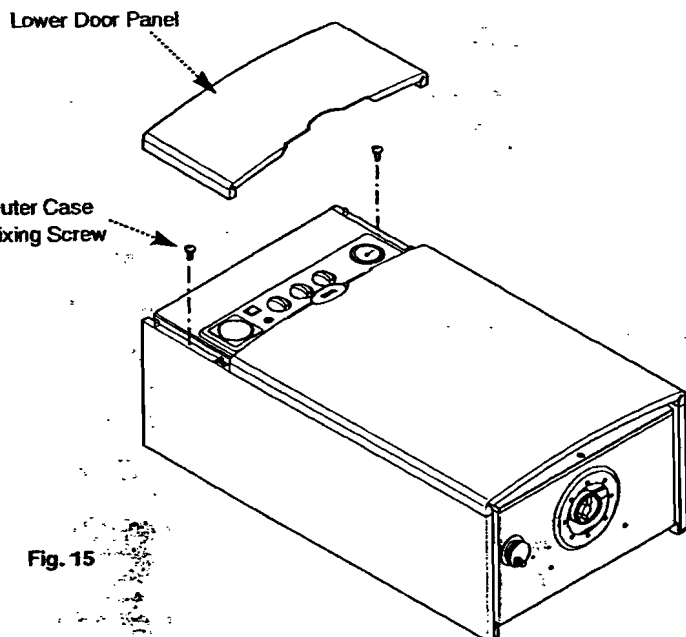
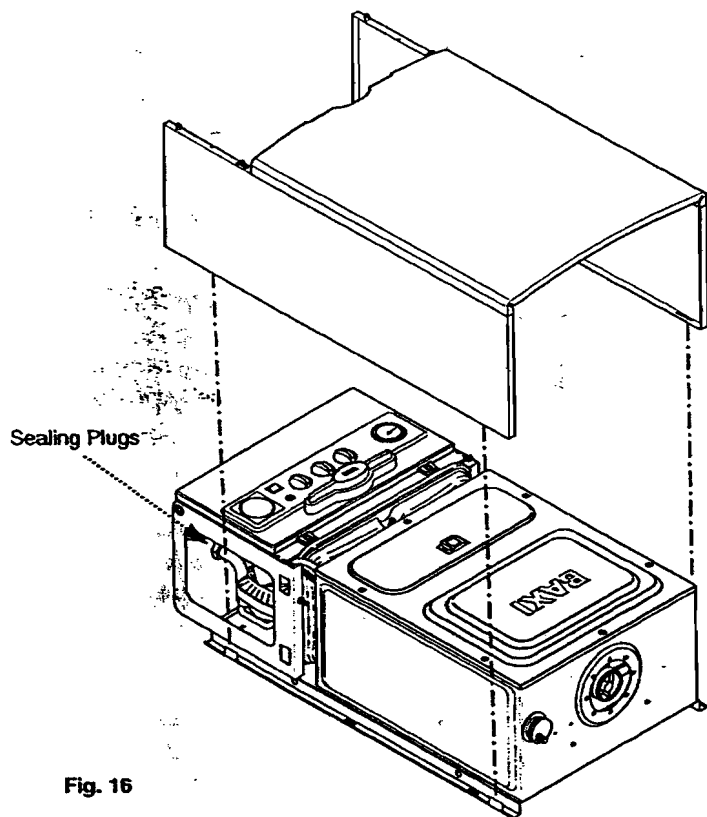

Fig. 15
Fig. 16
2. Remove the lower door panel by gripping its sides and pulling off (Fig. 15).
3. Remove the outer case fixing screws (Fig. 15). Slide the outercase upwards to disengage the hooks on the backplate and remove (Fig. 16).
4. Remove the sealing plugs from the copper bends (Fig. 16).